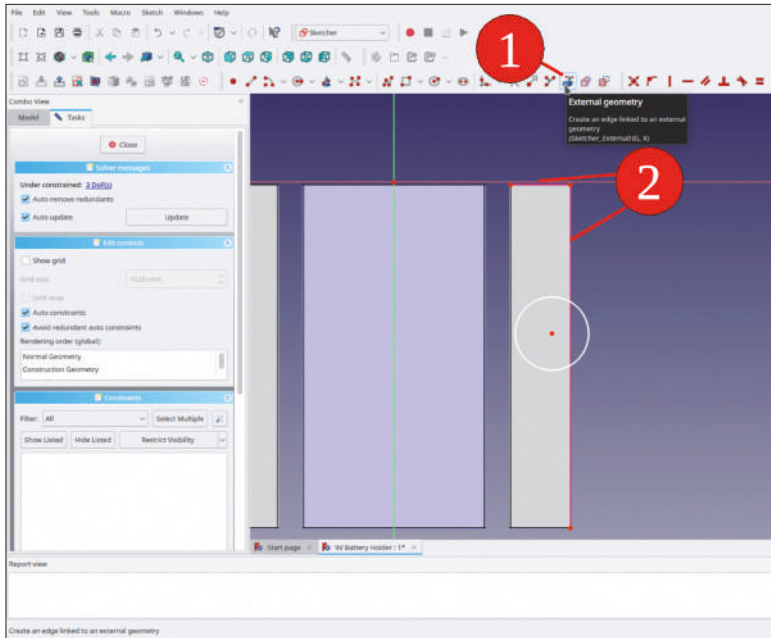

Figure 5-15
19. Click the 'External geometry' tool button and mark two edges of the sheet metal flange where the hole should be located on. The edges appear highlighted in violet, indicating that they are available as construction lines for the sketch (Figure 5-15).